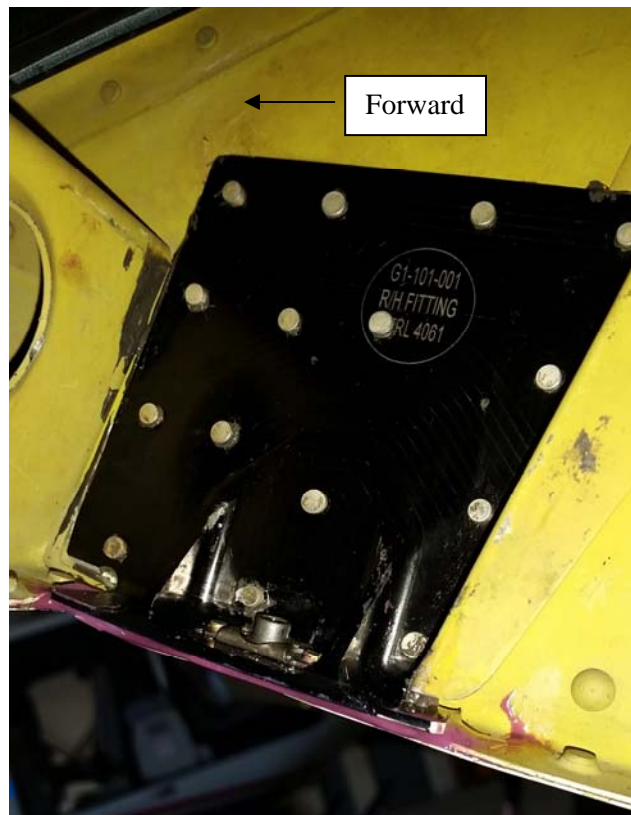

Figure 3 View Showing the Repair Fitting Installed (RH Side)
- (3) Inspect for cracks in the Nose Console area at the G1 mount forward fastener nutplates (RH & LH sides). Figure 3 shows a typical crack near the nutplate at the radius of the formed flange.